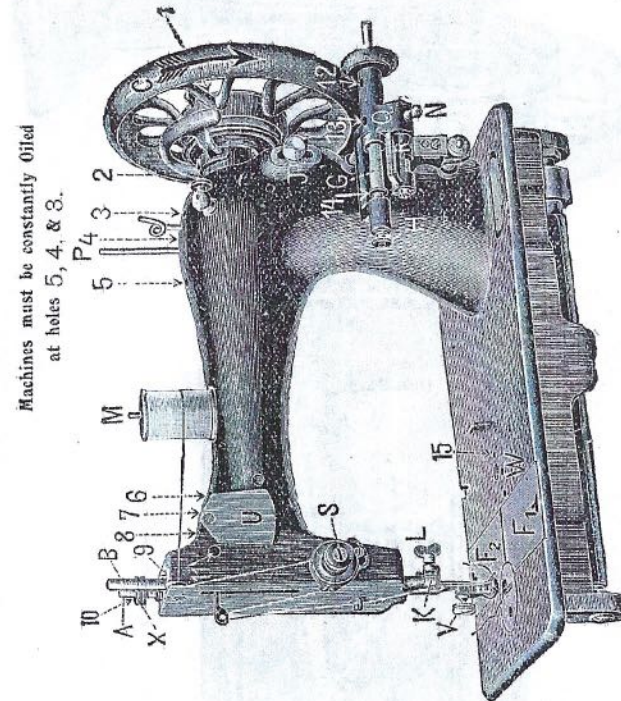
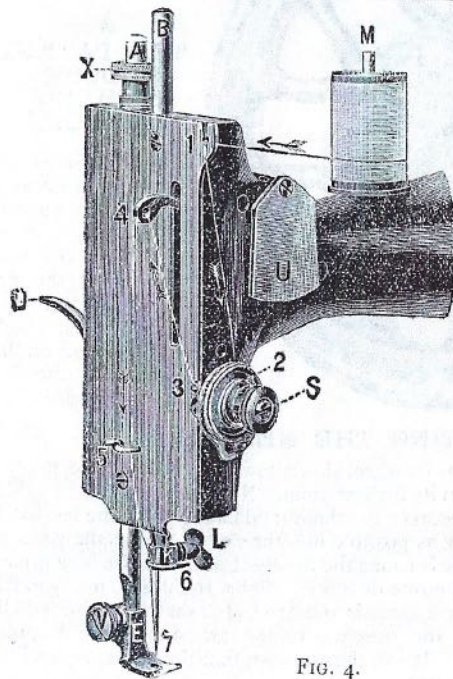
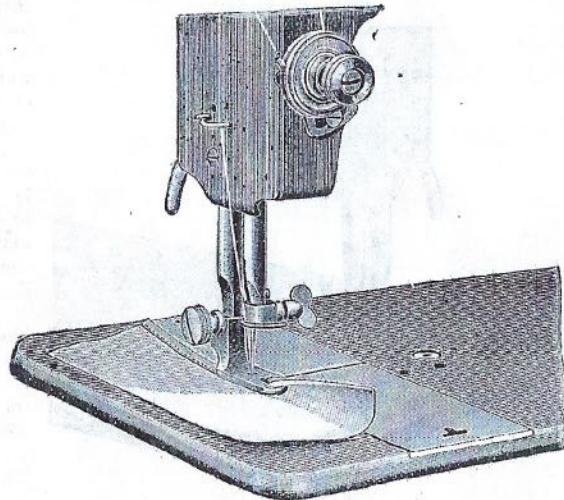

FIG 1
FIG. 4.
FIG. 13.
When a machine is in **CONSTANT** use, it should be oiled frequently. The little holes which may be observed on it are oil-holes, and lead to those parts subject to friction. In starting to clean the machine, it would be well to put with the oil-can a few drops of kerosine or paraffin into all the oil-holes, then raise the presser foot and work the machine for a short time; this will send all the dirt and dirty oil down into the oil-pan underneath, so that it can all be cleaned off. Raise the cloth-presser (*e*) Fig. 4, by means of the lever (*d*) Fig. 4, and set needle at its highest; then remove carefully, with a soft rag, all old oil, dust, and dirt, and let a drop of lubricating oil trickle out of the oil-can on to the places numbered from 1 to 27 in Figs. 1, 2, and 3.
**Machines must be constantly Oiled at holes 3, 4, and 5** (see fig. 1, page "A.")
To set the needle, turn the fly-wheel slowly towards you until the needle bar (b), Fig. 4, see page 2, is at its highest point. Now loosen screw (l), Fig. 4, see page 2, take the needle between the thumb and forefinger of the left hand, and from below push it as high as possible into the slot in the needle-yoke, so that the flat shank of the needle is facing the fly-wheel, and thus the long groove in the needle will face in the opposite direction. Screw the needle firmly in this position, care being taken that it ascends and descends exactly in the middle of the needle-plate hole. If the needle is set too low, stitches are dropped, or the needle may be broken. It will thus be seen that the adjustment of the needle is of the highest importance.
Place the reel of cotton on the spindle (*m*) Fig. 4, take the thread through the eyelet (1), then between the tension-discs (2) from right to left, pass it through the hook of the spring (3), now take it upwards over the hook (4), and behind the hooks (5 and 6), and finally from left to right through the eye of the needle (7). About two inches of thread should be drawn through the needle before commencing to sew.
Wind your braid, which should be soft (as a hard braid is difficult to work upon), on an ordinary reel, keeping it as flat and as regular as possible. Then put the reel on its spindle (*p*) Fig. 1. The braiding attachment shewn above has an opening in it, in front of the needle-hole, through which the braid is drawn so as to pass right under the needle. The size of the opening may be
Both threads having been properly arranged, observe the following directions:—Draw out the slide (*f*1), Fig. 1, see page A, and place the shuttle in its carrier so that the point is towards you, and the tension spring is shewing; now pull the thread out about two inches and draw the upper thread about two inches through the eye of the needle. Hold the end of the upper thread with the left hand, whilst with the right you turn the upper fly-wheel ONCE ROUND, so that the needle descends and ascends again to its highest position, by which means the under thread is drawn through the needle-plate in a loop, which must be drawn out. Raise the presser-foot (*e*), Fig. 4, by means of the lever (*d*), Fig. 4, see page 2, put both ends of the cotton behind, and take care to close the slide (*f*1), Fig. 1. This being done, place the work under the presser, lower the latter, then set
This hemmer is secured, in the place of the ordinary presser, by the screw (7), Fig. 4. The end of the fabric you wish to hem, after being turned down for about an eighth of an inch, is placed into the twist of the hemmer, as shewn in Fig. 13, and comes out with a double hem beautifully turned down, whose inner edge is guided straight under the needle. The fabric must be pulled by means of a thread, or pushed with a pin, far enough forward for the needle to catch it; then let down the presser, and begin to sew carefully.
The tension discs (2) Fig. 4, are regulated by the screw (s). If this be screwed up, that is by turning it to the right towards the fly-wheel, the tension becomes tighter; if unscrewed, that is by turning it away from the fly-wheel, it becomes looser. The screw must only be turned slightly, as the effect on the stitch is immediate.
When the machine is set in motion without any stuff being under the needle, the presser-lifter (*d*), Fig. 4, must be raised, so that the teeth of the feed-bar do not rub against the cloth-presser (*e*), Fig. 4.
Having mastered the proper treadle-motion, the learner should take a piece of material and place it under the cloth-presser, which should then be lowered by means of the lever (*d*), Fig. 4. Without threading the needle, set the machine in motion in order to become accustomed to the guiding of the work, which should first be guided in straight, and then in curved lines.
The cloth-presser serves to press down on to the cloth-plate and feed the material to be sewn. It is moved by means of the lever (*d*) Fig. 4. At the lower end of the cloth-presser (*v*), are fastened the various attachments. When sewing thick materials it is often advisable to slightly tighten the screw (*x*), Fig. 4, so as to increase the pressure on the work.